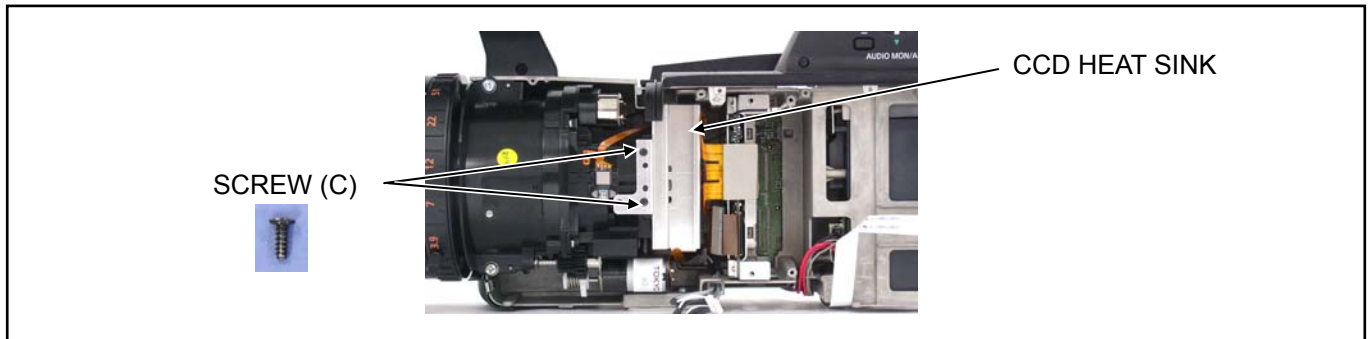

Figure 11-1
5. Unscrew the 2 screws (C) and remove the CCD Heat Sink as shown in figure 11-1.